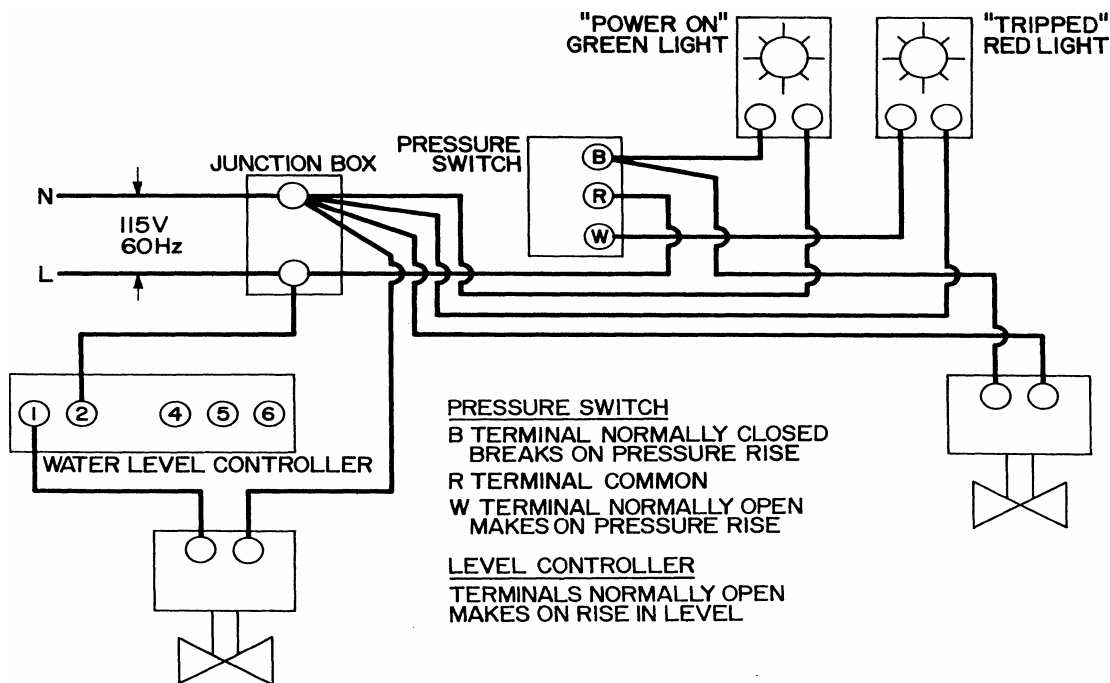

Figure SG-101-4. Over-Pressure Limit System Wiring Diagram
- OP2. Temporarily set the Pressure Switch (58) in the Control Box to its high pressure limit. See Figure SG-101-8, (Item 58) and the wiring diagram in Figure SG-101-4.
- OP3. Set the Pressure Controller (53) in the Control Box at the pressure desired to be held at the Secondary Steam outlet.